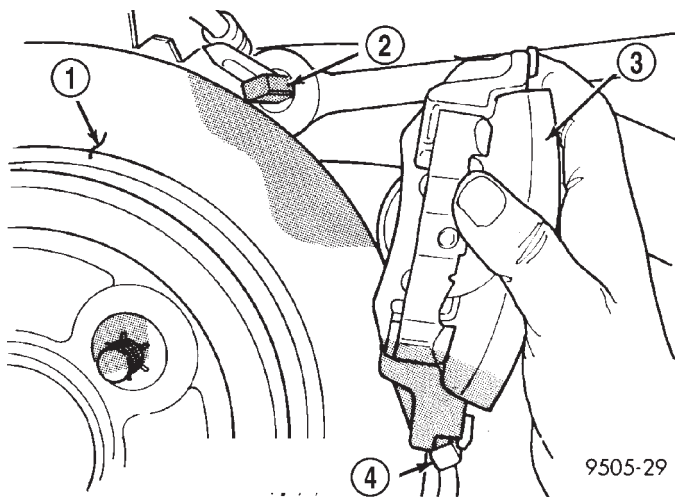

Fig. 95 Caliper Removal/Installation
(4) Remove caliper from adapter and rotor by first rotating the top of the caliper away from adapter, and then lifting the caliper off the lower machined abutment on adapter (Fig. 95).
(7) Carefully lower caliper and brake shoes over rotor reversing the required removal procedure (Fig. 95). Make sure that caliper guide pin bolts, bushings and sleeves are clear of the adapter bosses.